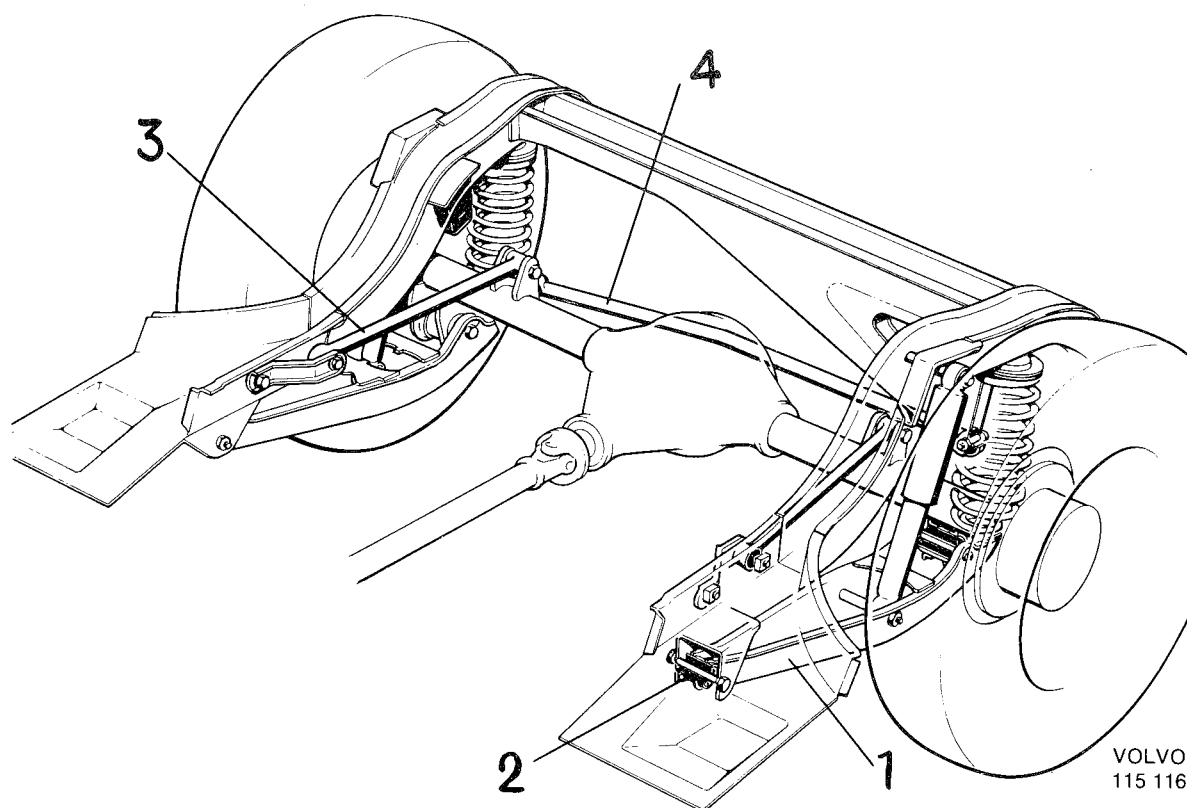

Fig. 7-7. Rear suspension
The rear axle is attached to the body through two flexibly mounted trailing arms (1, Fig. 7-7). Longitudinal forces are transferred by two reaction rods (3) and the transversal forces by a track rod (4). The trailing arms are fore-mounted in rubber bushings (2). The reaction rods and track bar are attached to the rear axle frame through the rubber bushings.